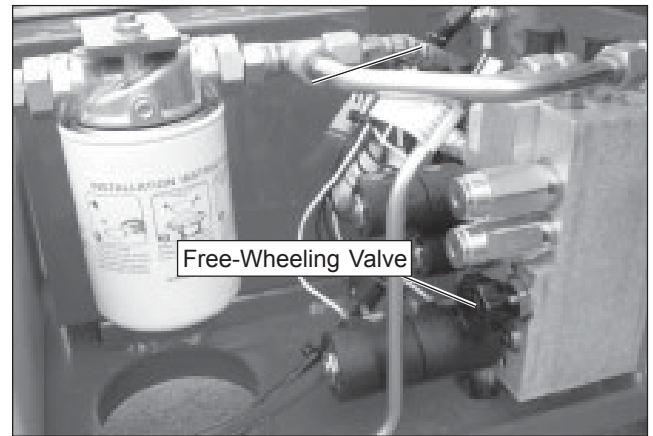

Figure 11.2 – Hydraulic Tray
3. Unlatch and swing out the hydraulic tray. The free-wheeling valve is located on the hydraulic manifold (refer to Figure 11.2). Turn the free-wheeling valve counterclockwise to the fully open position.